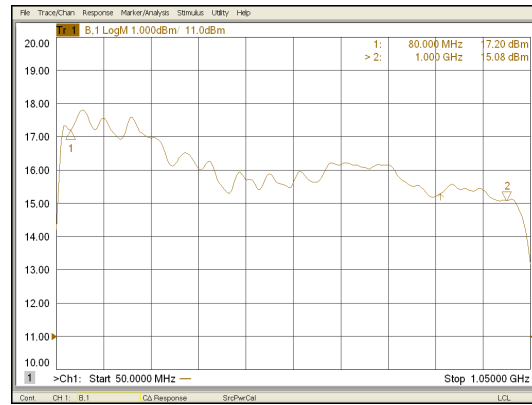

Figure 4-3. Typical Response: Input A5-Front Panel RF Output
2. Remove the coaxial cable from the output of the A2 Driver Amplifier to the input of the A5 Eight-Way Splitter. The typical response from the input of the A5 Eight-Way Splitter to the RF OUTPUT connector on the unit's front panel is shown in Figure 4-3.